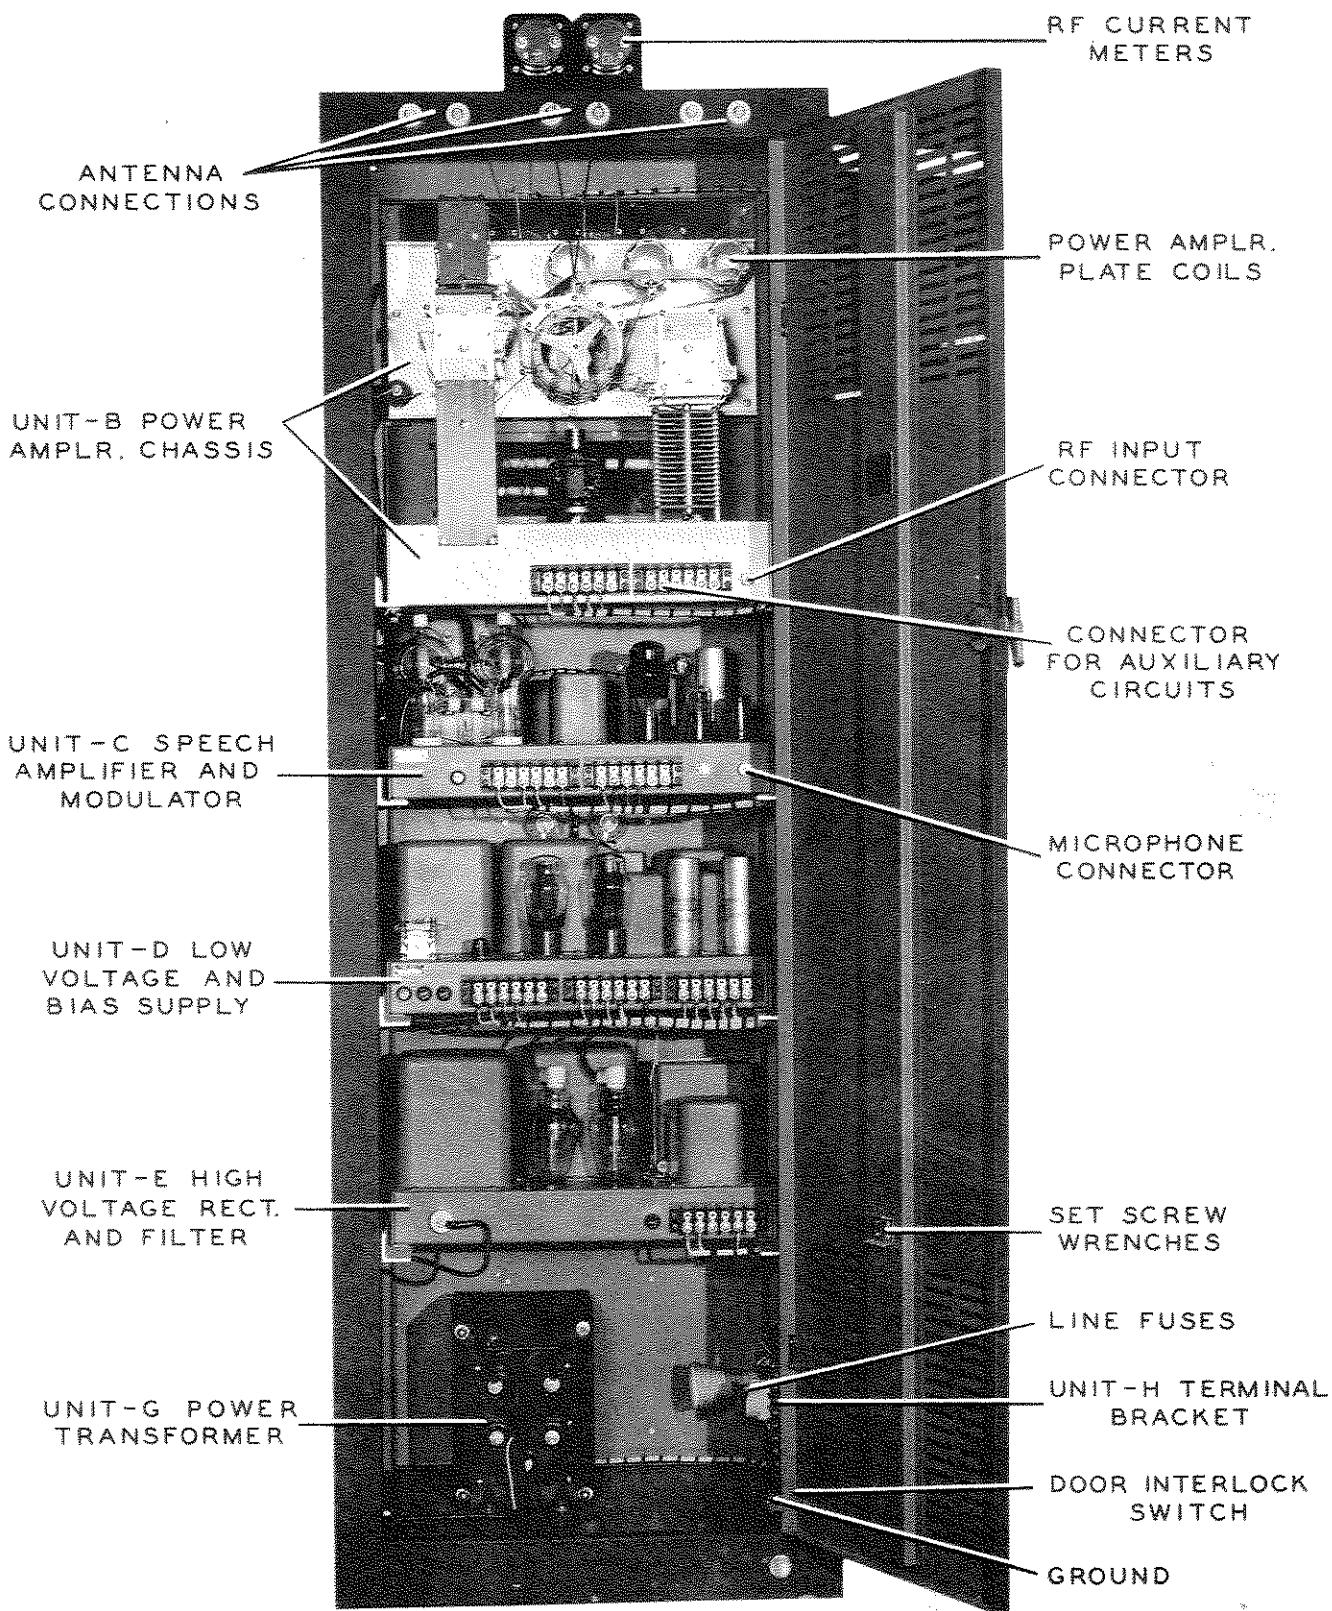

FIGURE 3-3 TRANSMITTER - REAR OPEN
(4) METERING CIRCUITS. - All important circuits are metered in the transmitter unit. The power amplifier grid and plate currents, the modulator plate current, and the modulator/power amplifier filament voltage are metered. Two 3 ampere radio frequency meters to read r-f line current are mounted externally on the roof of the transmitter cabinet to be connected as desired.
(5) ANTENNA TERMINATION. - Refer to figure 3-3. The antenna tuning unit incorporated in the 30K transmitter is a condenser - coil combination which can be conveniently changed from a series to a parallel tuned circuit. The inductance of the coil and the place of antenna feeder attachment can be changed at will, with the result that practically any type of antenna or antenna feeders can be employed. In order to cover the entire frequency range of the transmitter, two sets of plug-in coils are used. One set covers the 10, 11, 15 and 20 meter bands while the other set is used on the 40 and 80 meter bands. The coil units plug into a jack strip mounted on top of the antenna tuning condenser. The antenna coils are split and a moveable link inserted between the sections. This link is actually a continuation of the power amplifier plate tank coil. The connection between the two sections of the antenna coil is actually a small jumper which, when opened, places the antenna tuning capacitor in series with the antenna coil thus making it possible to tune extremely low impedance antennas or transmission lines. When this jumper is closed, the tuning capacitor is in parallel with the coil and high impedance antennas and transmission lines can then be tuned.
(2) INSTALLATION OF UNITS. - Reference to the photographic illustrations will assist in the assembly of the transmitter. See figure 3-3. Any cords designed to hold the cable in place for shipment should be untied and removed. Place the heavy plate power transformer onto the bottom of the cabinet and make the connections indicated by the white tags tied to the cable lugs. After this, the power transformer may be placed over the mounting holes and bolted into place if desired. Proceed with the placement of units from the bottom to